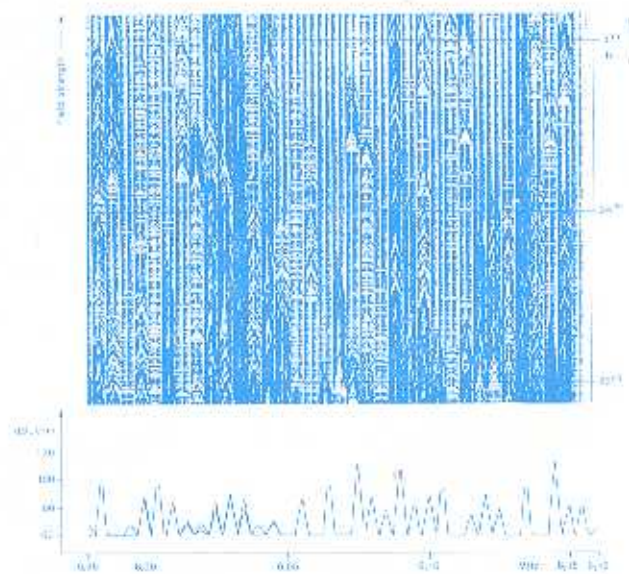

Fig. 7 Recording of 49-m band on Recorder ZSKT; XYT representation (above) and XY representation (below).
- Graphic representation of field strength of selected frequency bands either in form of a line spectrum or as a continuous curve on an XY recorder plus output of measured field-strength level and; for example, of modulation depth on a printer (Figs 7 to 11).